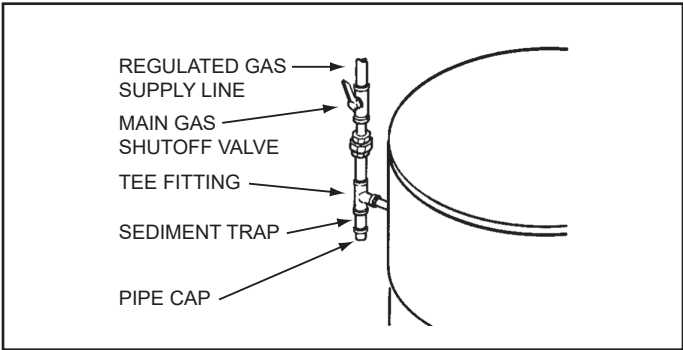

Figure 69. Supply Gas Line Installation
Ensure that all gas pipe is clean on the inside before installation. To trap any dirt or foreign material in the gas supply line a sediment trap must be installed as shown in *Figure 69*. The sediment trap must be readily accessible and not subject to freezing conditions. Install in accordance with the recommendations of the local gas utility company
6. Install a sediment trap as shown in **Figure 69** (page 51).
7. Install a Main Gas Shutoff valve in the supply gas line as shown in **Figure 69** (page 51).